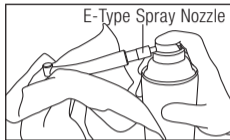

Fig. 13
- 3 Hold the handpiece, and spray for 2 or 3 seconds until oil comes out of the handpiece head (Fig. 13). Repeat lubrication until foreign material stops coming out of the tip.